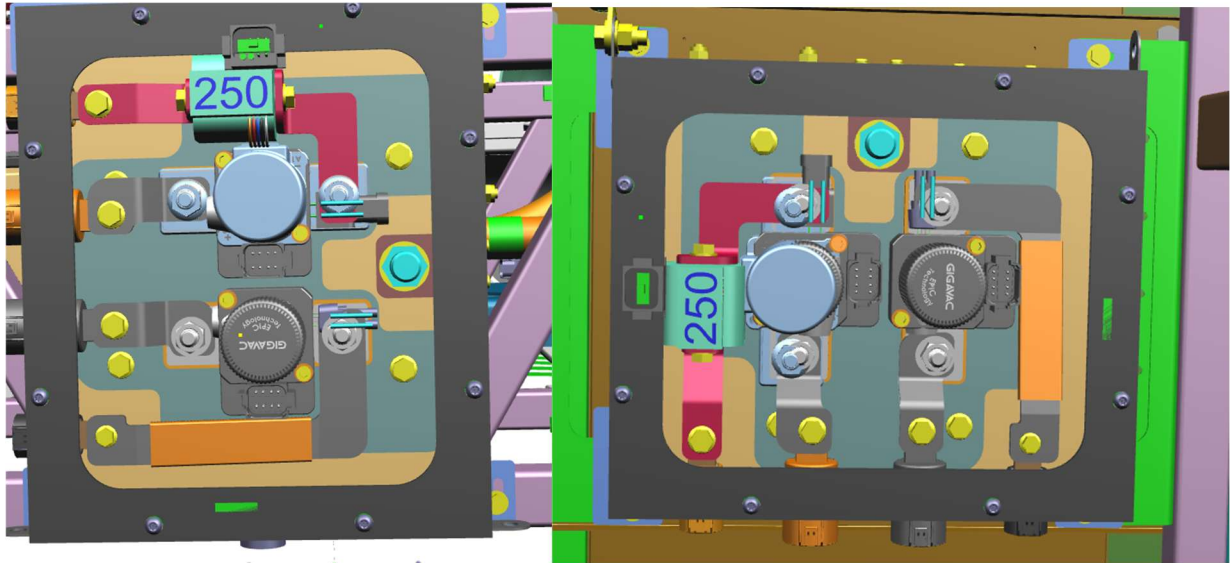

Figure 3 - Box 91118_F vs 980566_B
2.4. There will be two types of boxes for XE-35 and XE-40 foot as per Figure 3.